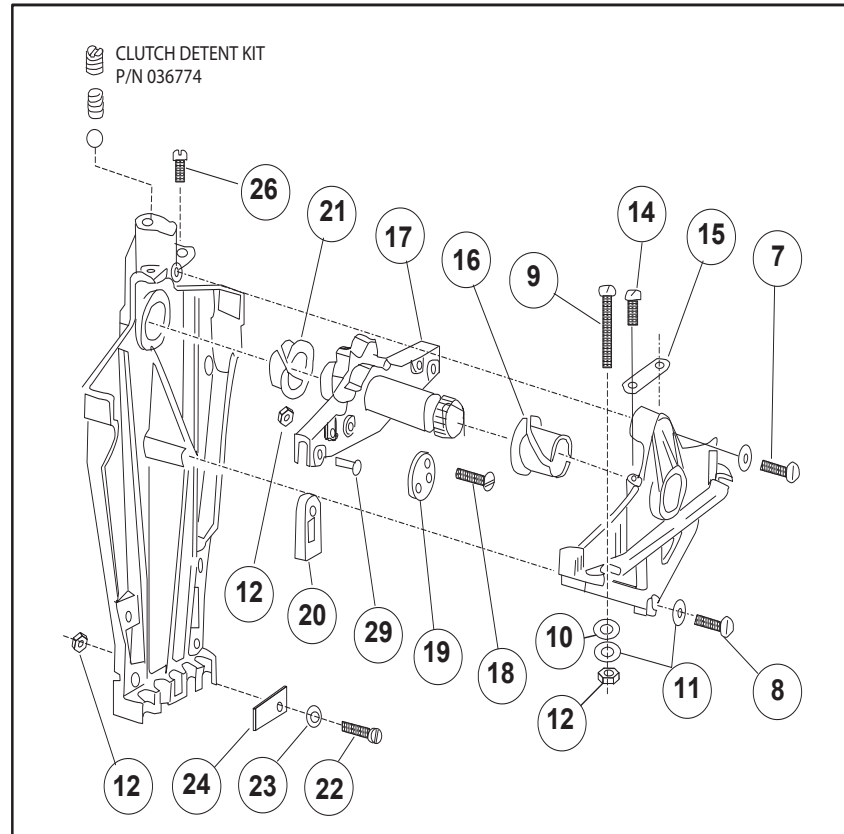

Figure 7. One half of the twin SR shown.
STEP 3. Screw terminal (20) onto cable approximately 9/16 inch. (See Figure 7.)
STEP 4. Place cable hub into groove on lower part of main housing and retain with plate (24), screw (22) and bowed washer (23). (See Figure 7.)
Not Shown in Figure 7.
STEP 2. The following, packed with the Control and shown on Figure 7, page 8, are to be discarded: